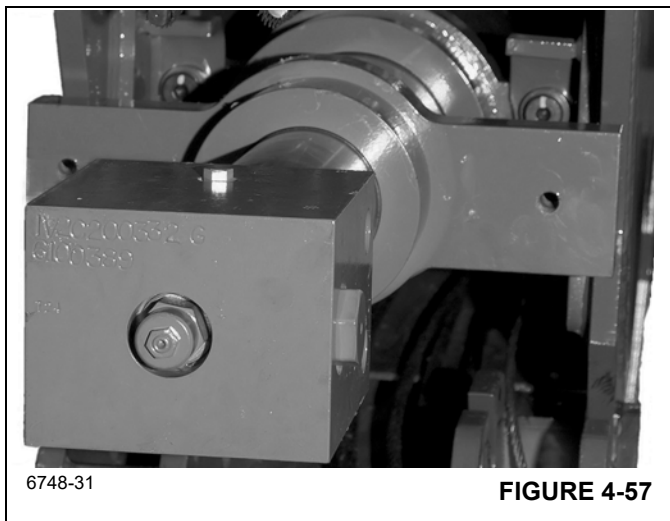

FIGURE 4-57
19. Rotate the cylinder mounting to make mounting easier into the inner mid section. (Figure 4-57)